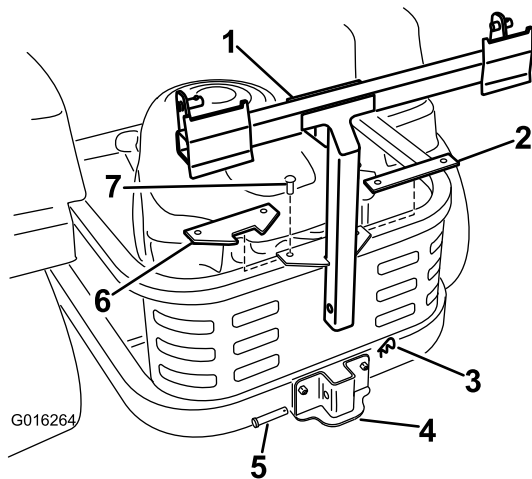

Figure 5
- Install the new angle spacer plate as shown in Figure 5 using the fasteners removed previously.
- Install the bagger frame to the support bracket. Secure the bagger frame with a clevis pin (1/2 x 2-1/4 inch) and hair pin cotter (Figure 5).